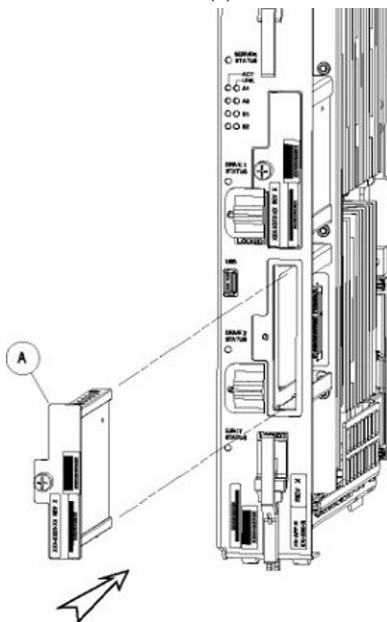

Figure 37: Drive Module Replacement
1. Slide a new drive(s) module into the drive slot on the card (see Figure 37: Drive Module Replacement).